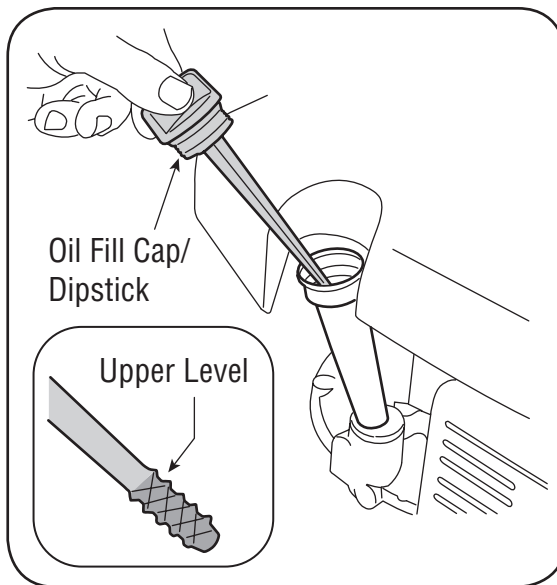

Figure 9-2: Checking the oil level.
1. Remove the oil filler cap and wipe the dipstick clean, Figure 9-2.
3. If the level is low, slowly add oil to the upper limit on the dipstick, see Figure 9-2 inset.